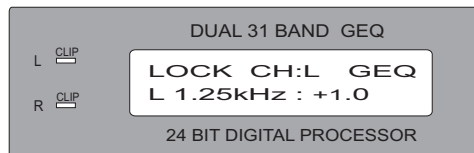

Fig.8 LOCK mode
7. Press button 7 for about 3 seconds during main menu to LOCK all function keys & jog wheel. As shown in Fig. 8, press button 7 for about 3 seconds to disable LOCK and back to main menu. (Remarks: MIDI transmission is not allowed during LOCK mode).